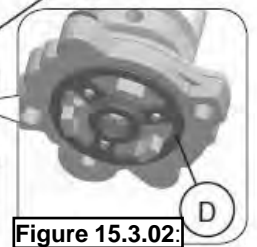

Figure 15.3.02:
3. Ensure the rubber gasket (D), which is prefitted as part of assembly (E), is properly positioned, see **Figure 15.3.02**, otherwise fit the gasket as shown **Figure 15.3.02**.